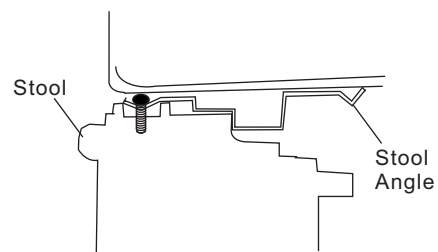

Fig.12
2. Place cabinet in window with bottom stool angle firmly seated over window stool as shown. Bring window down temporarily behind top angle to hold cabinet in place (Fig.12).